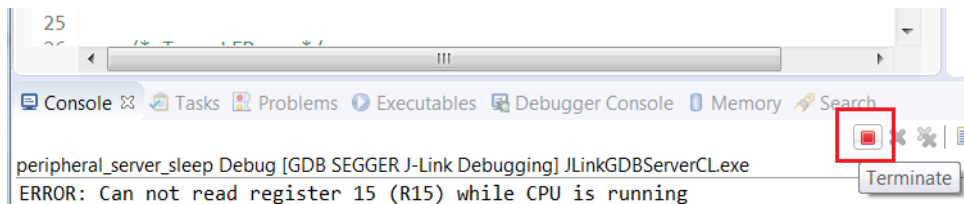

Figure 47. Terminate Targets Icon
7. Stop the debug session and click on the **Terminate** icon to remove all terminated targets (see Figure 47).